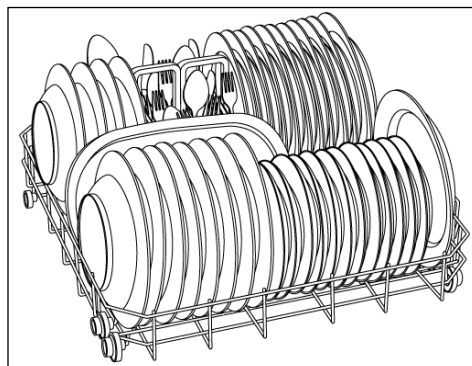

Figure 3
- **WATERBLOCK (fig. 3)**
N.B.: NEVER LIFT OR LOWER THE BASKET FROM ONE SIDE ONLY (fig. 3).
- Remove the gauze filter (fig.3) and wash the whole unit under a jet of water. If necessary a small brush can be used.